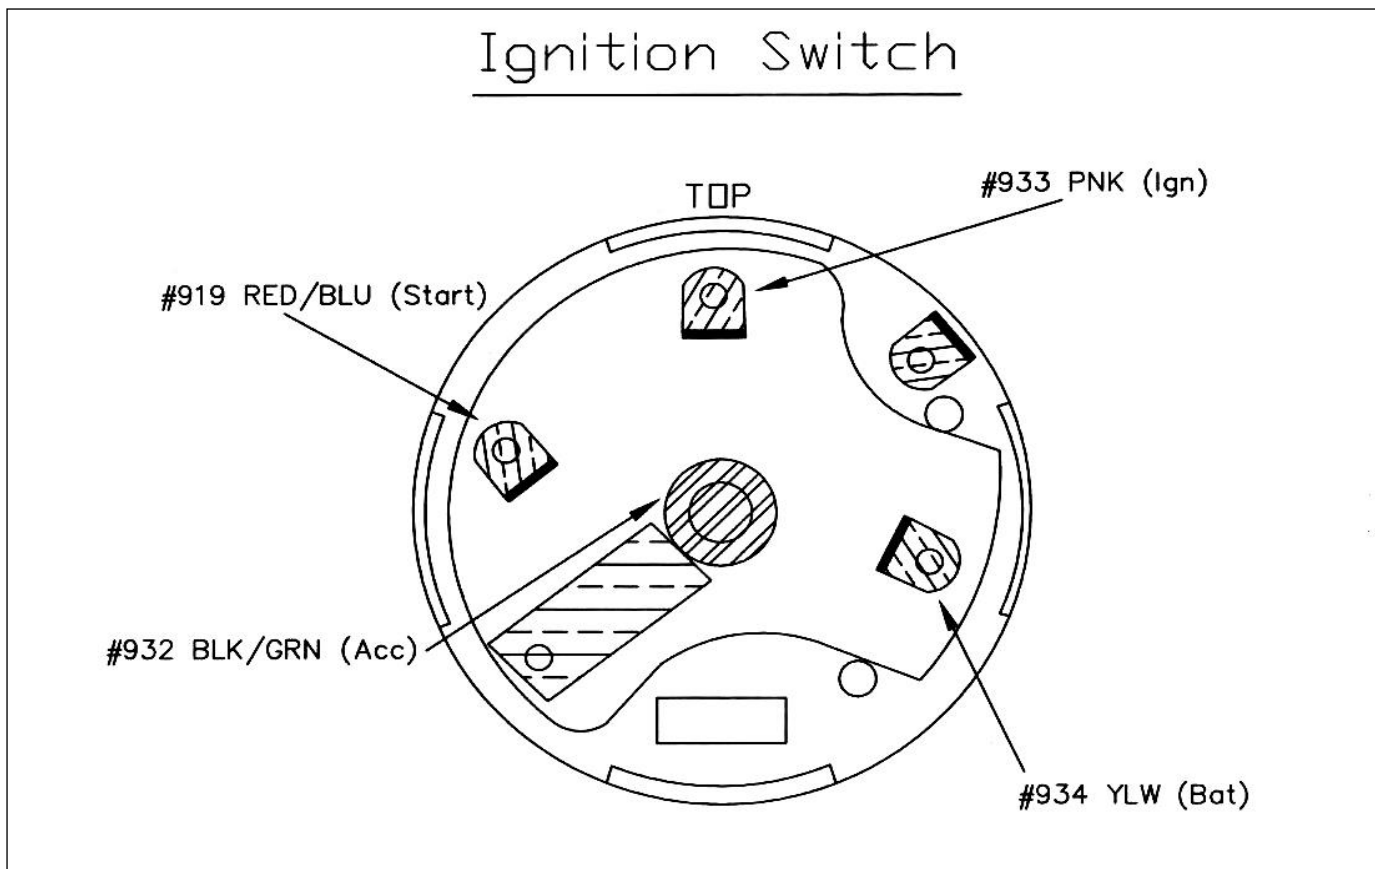

Figure 7-15 Ignition Switch Connections
- 7.7.1** Connect the IGNITION SWITCH wires to the new supplied Ignition Switch as illustrated in **Figure 7-15**. Use the two 10-24 machine nuts included in the parts kit, to attach the #932 Blk/Grn wire.